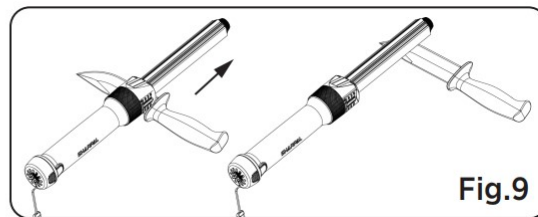

Fig.9
3. Place the heel of the opposite knife blade against the opposite angle guide. Repeat the **PUSHING** stroke the same as Step.2 (See Fig.9).